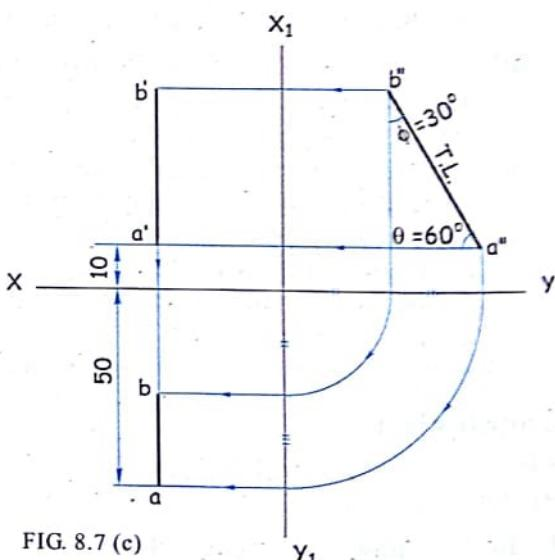

FIG. 8.7 (c)
- From F.V. ( $a'b'$ ) and S.V. ( $a''b''$ ), we can construct the T.V. ( $ab$ ) as shown in figure 8.7 (c).